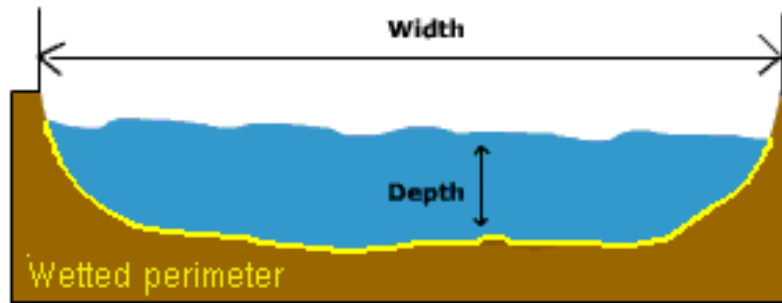

Figure 3. graphic description of wetted perimeter
Weirs are overflow structures built across artificial open flow channels to measure the volumetric rate of water flow (flowrate) (Figure 3). Some general terms pertaining to weirs are:
Equation 4, 5, and 6 are used to calculate the liquid flowrate (Figure 3). h_1 is the head associated with velocity at a point in the weir; h_2 is head associated with the total height of the weir. g is gravitational constant. b is the width of free surface, and α is the angle of the V-notch weir, which are used to calculate the cross-section area. Equation 4 is the presentation of Bernoulli equation when the surface pressure is zero. Q is fluid discharge (flowrate): at any given point, the flowrate is the product of fluid velocity (V) and cross-section area (A) (Eq. 5). However, the flowrate changes when hydraulic head changes (Eq. 7).